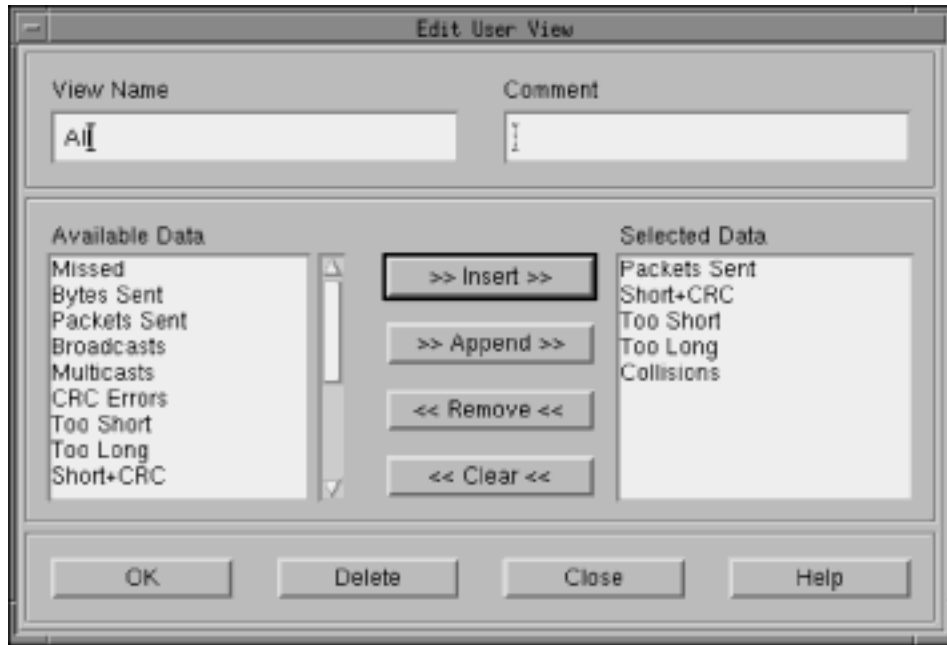

Figure 33. Edit User View Dialog Box
2. Click **Edit/Create View** to open the Edit User View dialog box, shown in Figure 33 on page 71.